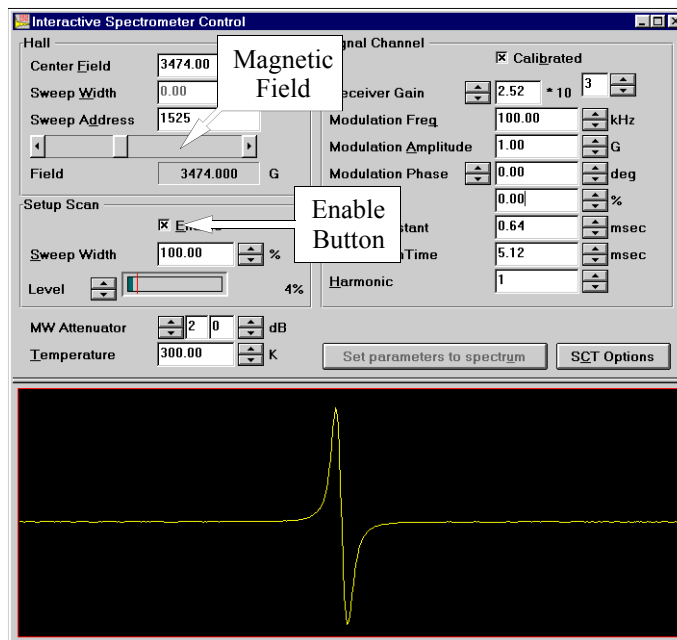

Figure 17-17 The Interactive Spectrometer Control dialog box.
2. **Open the Interactive Spectrometer Control dialog box.** Click the Interactive Spectrometer Control button in the tool bar and the dialog box will appear. (See Figure 17-17.) We can now optimize some of the parameters and adjustments for the calibration routine.